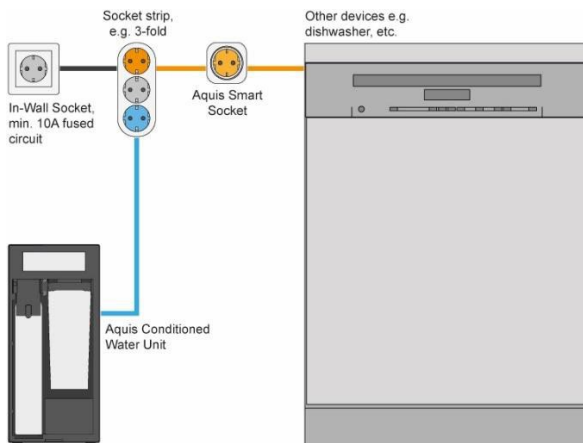

Figure 7: Connection with Smart Socket
- **Connections:** For the installation of the AQUATAPS CCU / CWU system, a mains water connection and a GFCI-protected separate power circuit with a suitable mains connection fused by at least 10 A and a permanent voltage supply of 230 VAC / 50 Hz are necessary. Angle valves must already be installed. If no separate power connection is available and other devices e.g. a dish washer is connected to the same power circuit, it is recommended to use a power meter from AQUATAPS ("Smart Socket") to protect the power circuit from excessive load (see Figure 7). Use only the supplied power cable directly connected on the AQUATAPS CCU / CWU system. A damaged power cable must be replaced with an identical one by AQUATAPS or by qualified personnel trained by AQUATAPS. Always use the hose set delivered with the device. The current one, available in the domestic installation, cannot be re-used.